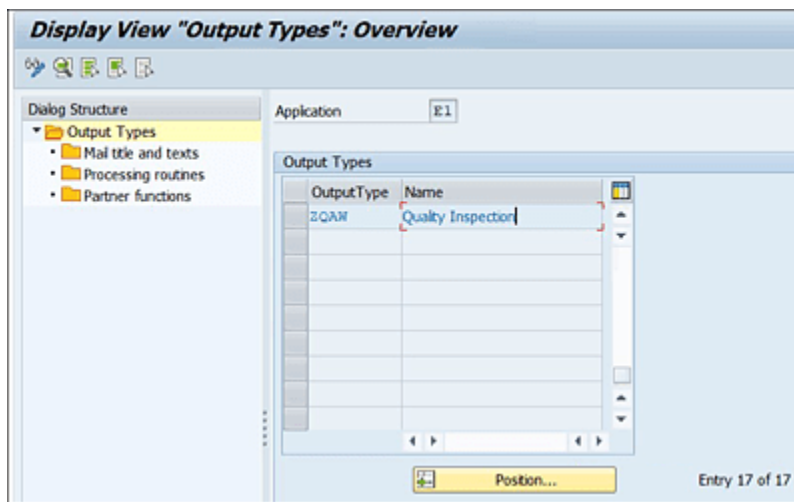

Figure 5.18 Custom Output Type Definition in Application E1 in Transaction NACE
1. Define your custom output type in the **Application E1** (inbound delivery) in Transaction NACE. Once you select the application, click on the **New Entries** button, and enter the output type name and short description. Figure 5.18 shows the custom output type definition in Transaction NACE.